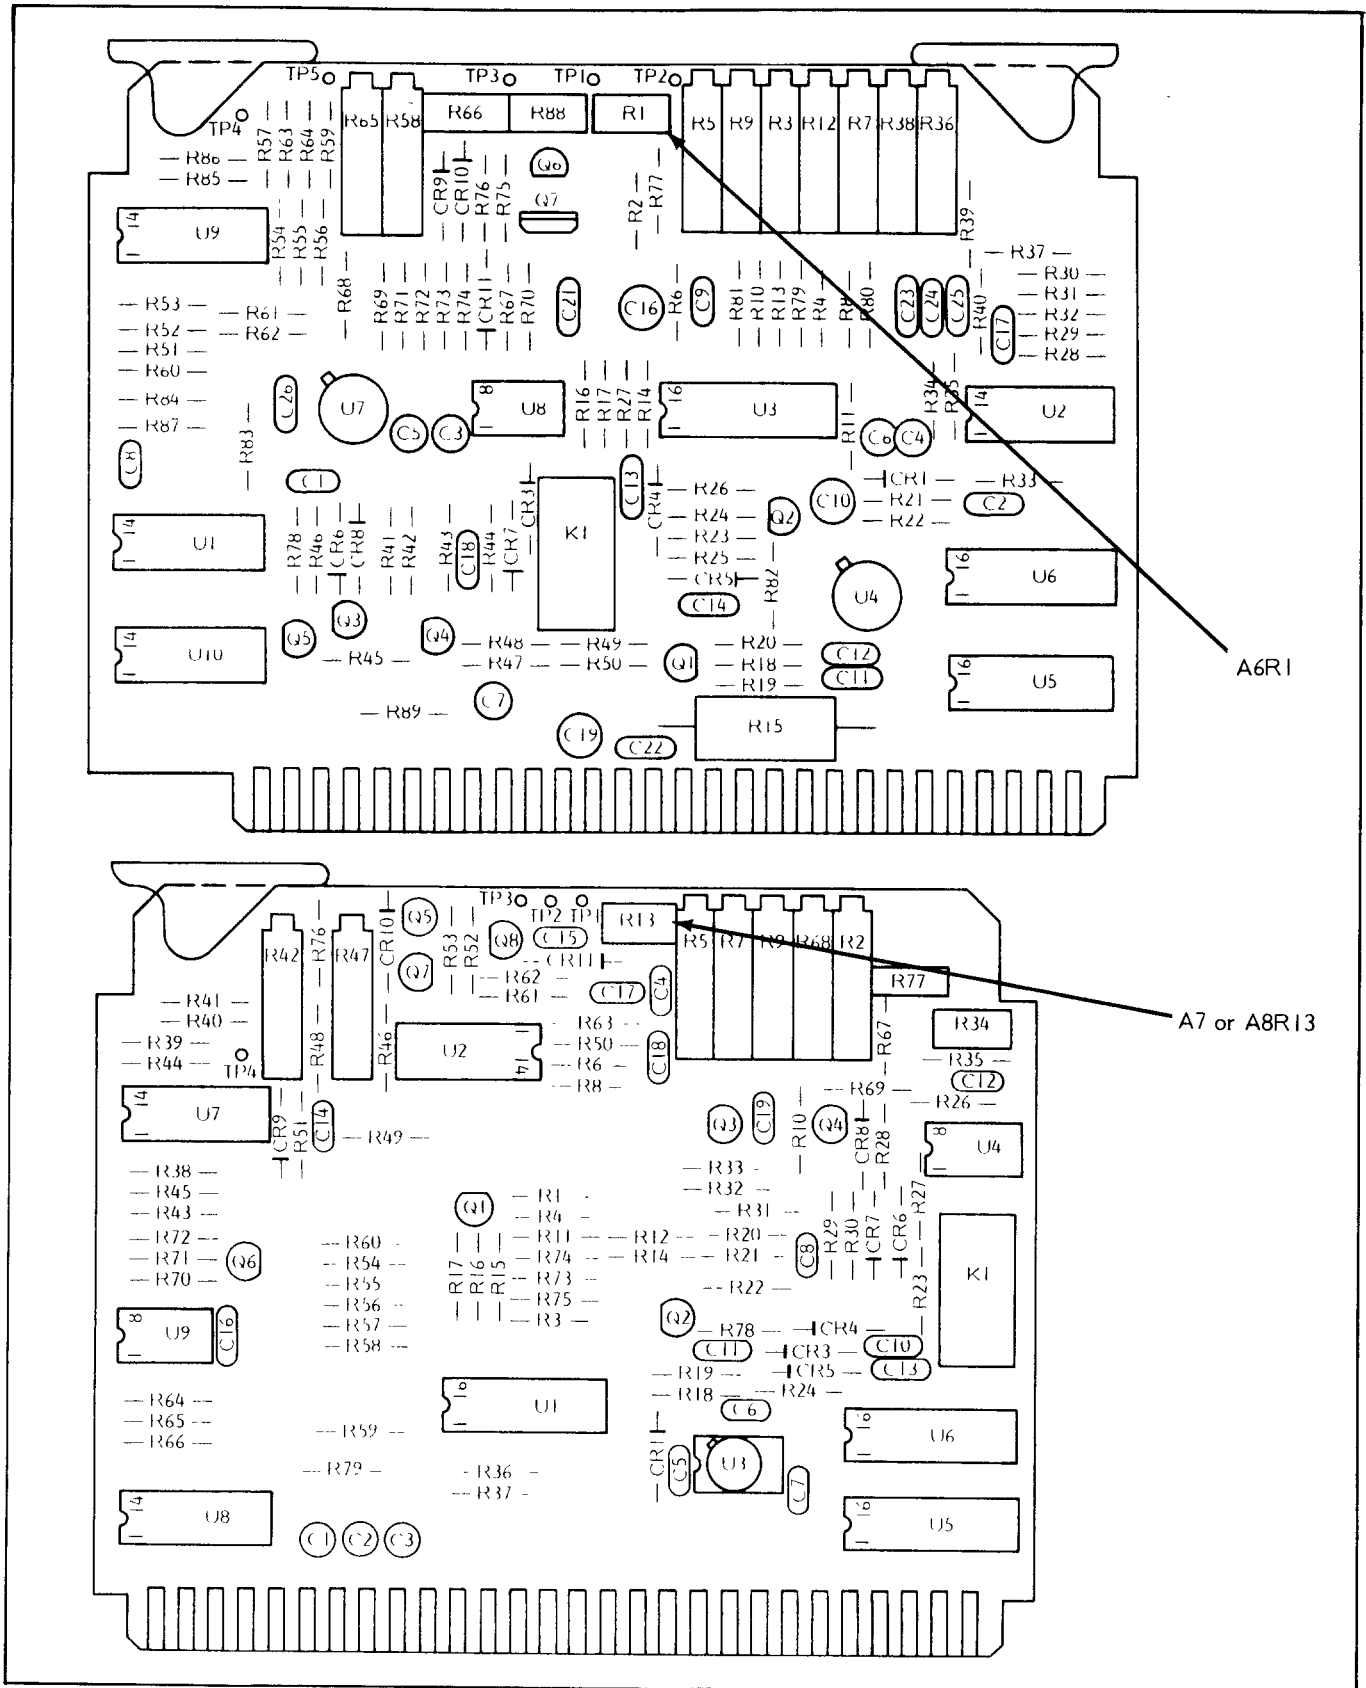

Figure 5-36. Sweep Rate Compensation Adjustments
3. adjust A6R1 (Figure 5-36) for a minimum frequency shift, as indicated by the selected perturbation.